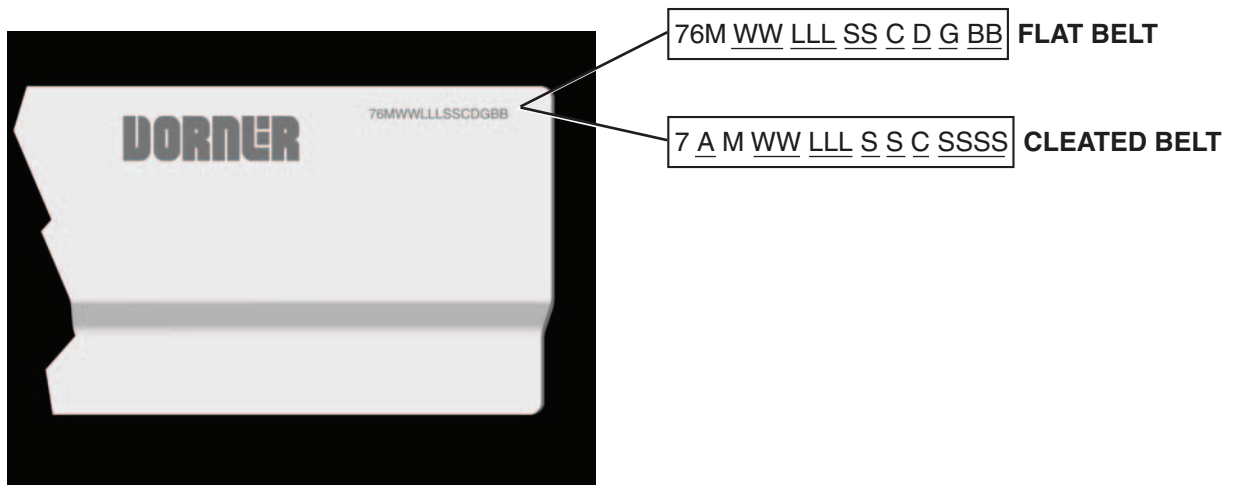

Figure 98
Refer to model number on the conveyor frame (Figure 98). From the model number determine the conveyor width (WW), length (LLL), drive/tail types (A) and belt type (BB). Use data to configure belt part number as indicated below. *Add "V" for v-guided belts.
Refer to model number on the conveyor frame (Figure 98). From the model number determine the conveyor width (WW), length (LLL), cleat type (C) and cleat spacing (SSSS). Use data to configure belt part number as indicated below. *Add "V" for v-guided belts.